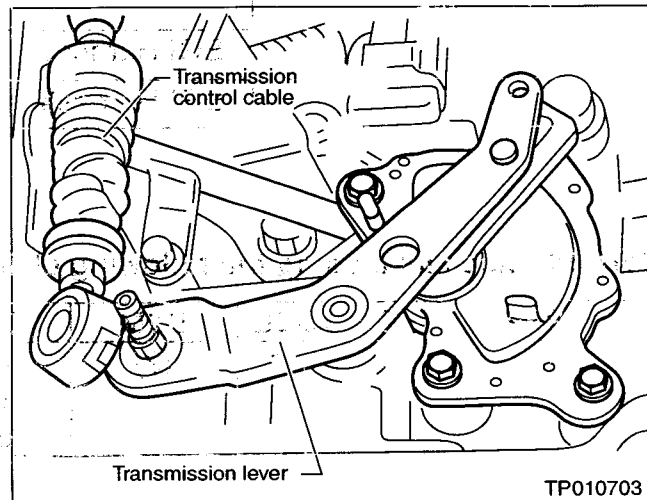

Figure 1
2. Place the gear shift selector lever in Park (P) position.
3. Remove the transmission control cable from the transmission lever (see Figure 1).
4. Shift the transmission lever (see Figure 1) into Neutral (N) position.